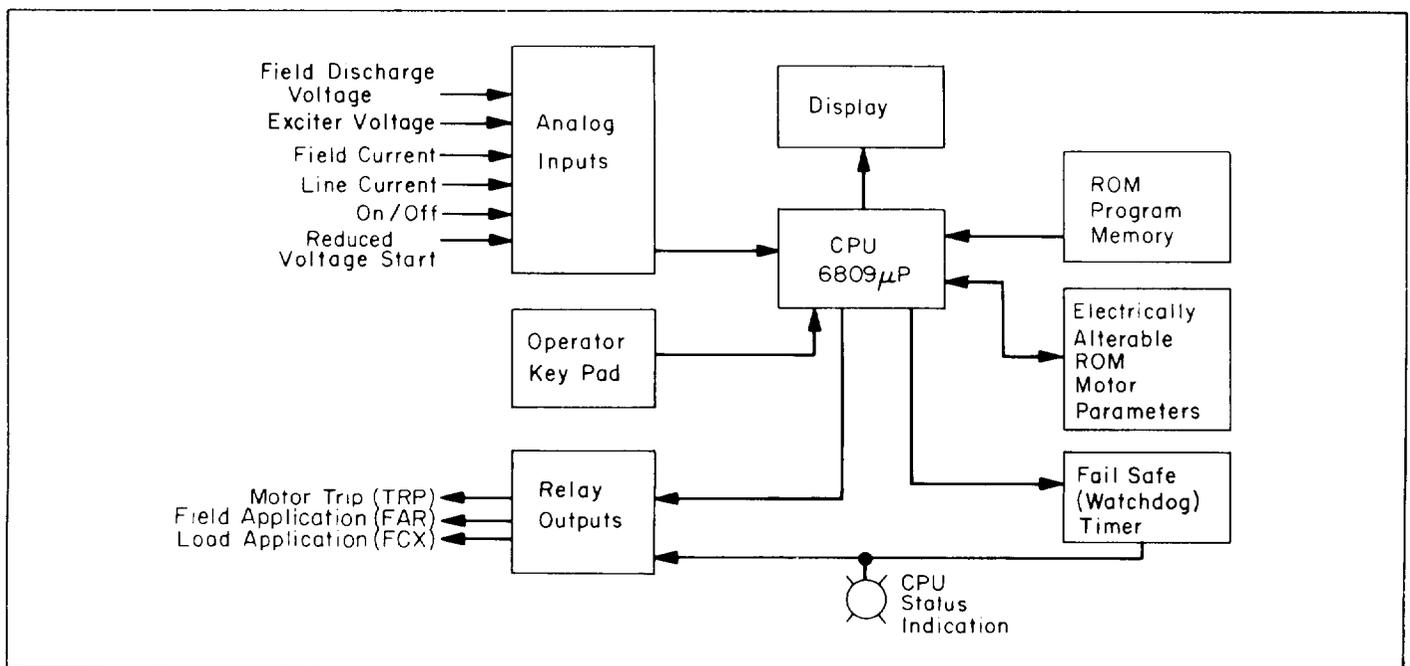

Figure 20A. CR192 μ SPM block diagram
1. **Resync mode.** Resync mode operation will cause the μ SPM Field Application Relay, FAR, to act to remove the motor-field excitation. Action will occur from either lagging power factor below the programmed set-point, or a line current surge above approximately four times motor full-load current. See Figure 20A.